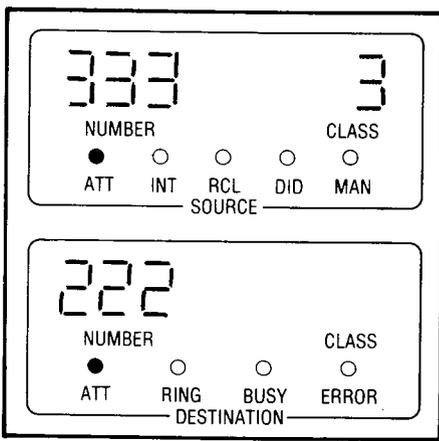

Fig. 357-2
- SOURCE display shows number of check extension 1 and "3" (Follow Me code) (See Fig. 357-2)
- SOURCE shows check extension 1 number and "Follow Me" code (3). (Fig. 357-2)
- ATT lamp lit (Fig. 357-2)